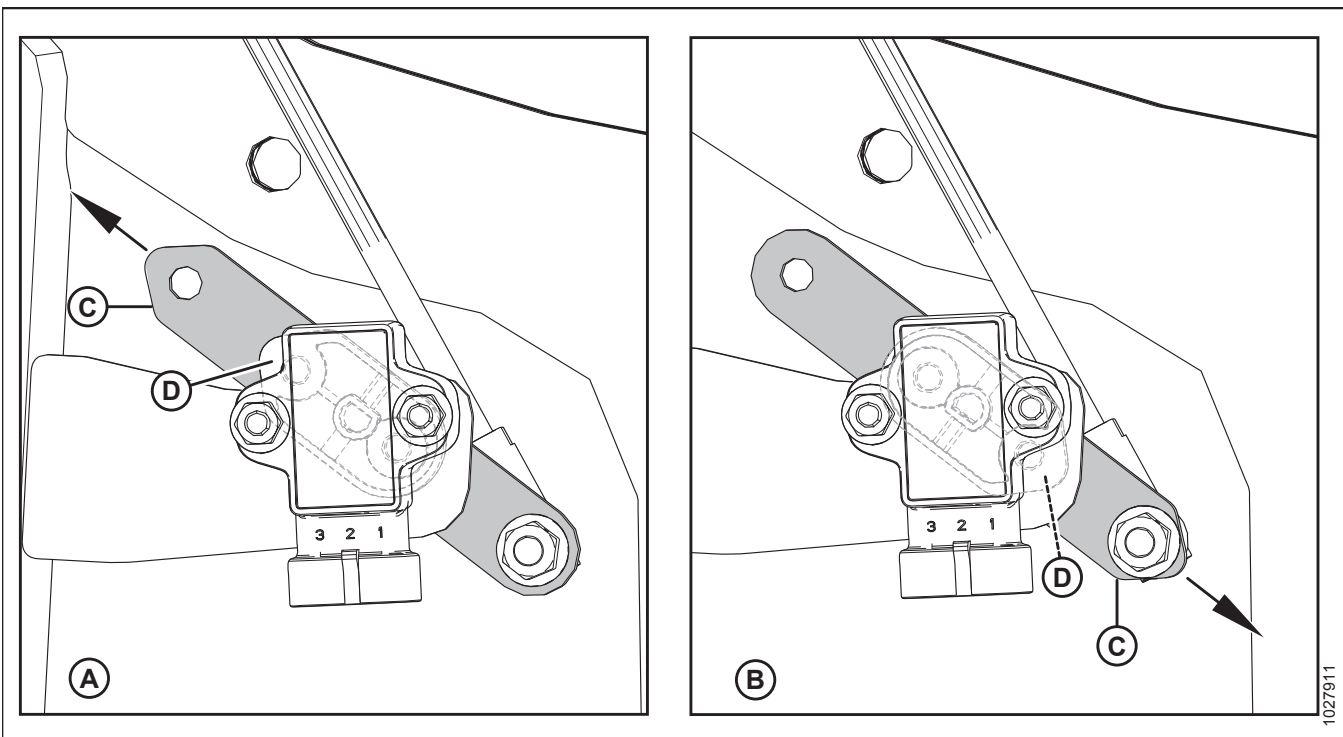

Figure 3.126: Sensor Arm/Pointer Configurations
Check that sensor arm (C) and pointer (D) are configured properly for your machine, refer to Figure 3.126, page 106.